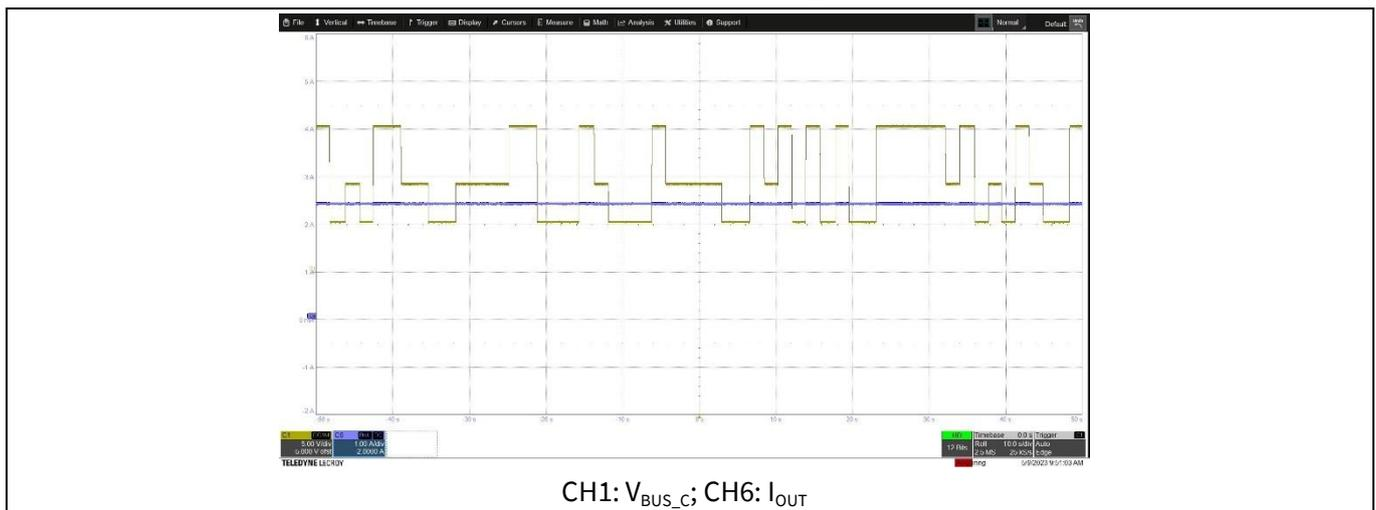

Figure 29 $V_{IN} = 22.5 V_{DC}$; V_{BUS_C} – continuously changing from 5 V to 9 V to 15 V (PDO); $I_{OUT} = 2.5 A$
- Electrical stress test #2** $V_{IN} = 22.5 V_{DC}$; V_{BUS_C} – randomly changing from 5 V to 9 V to 15 V (PDO); $I_{OUT} = 2.5 A$ for a duration of 60 minutes. Captured waveforms are shown in Figure 29